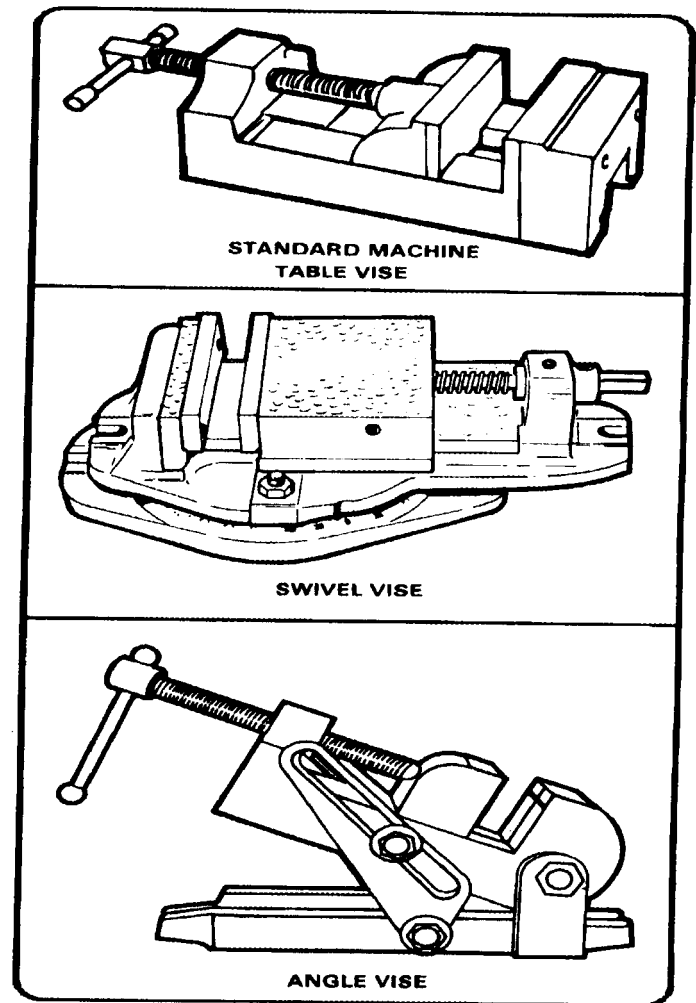

Figure 4-24. Types of vises.
- The standard machine table vise is the simplest of all vises. It is equipped with two precision ground jaws for holding onto the work and a lead screw to tighten the one movable jaw to the work (Figure 4-24).
- The swivel vise is a machine vise that has an adjustable base that can swivel through 360° on a horizontal plane (Figure 4-24).
- The angle vise is very similar to the table vise, except this vise can be tilted to 90° to be perpendicular to the work table (Figure 4-24).
Before attempting to use a drilling machine, some provision must be made for holding the workpiece rigidly and securely in place. The workpiece should always be firmly fastened to the table or base to produce holes that are located accurately. Use work holding devices to hold the workpiece (Figures 4-24 and 4-25). The two best methods to mount workpieces are explained below.